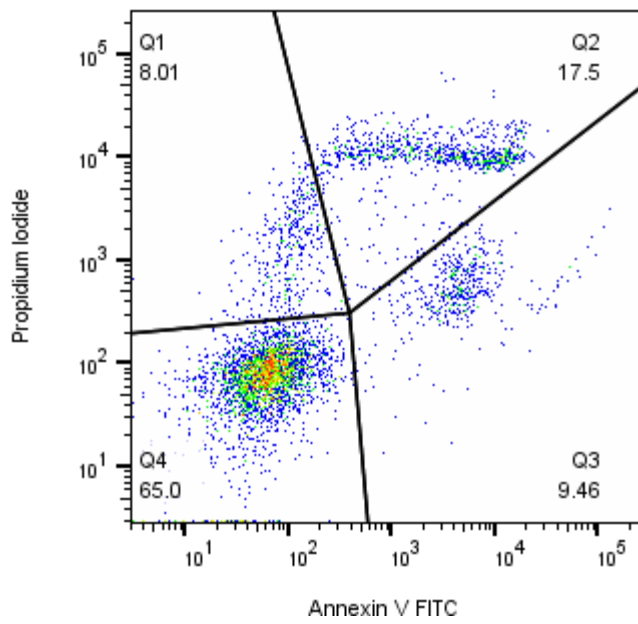

Figure 2. Annexin V FITC vs. Propidium Iodide showing cells undergoing PCD
- 50 1. Insert a quadrant or spider quadrant gate as shown below in Figure 2. Gates should separate live cells (Q4: Annexin V-/PI-), early PCD (Q3: Annexin V+/PI-), late PCD (Q2: Annexin V+/PI+) and dead/necrotic (Q1: Annexin V-/PI+) from each other. The numbers in the quadrants indicate the percentage of cells in that quadrant